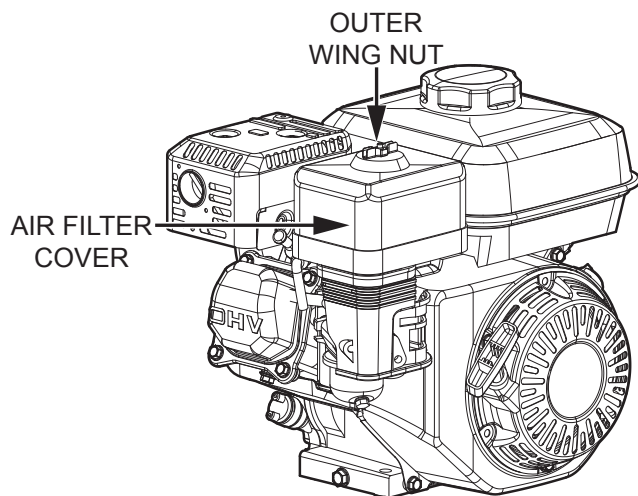

Figure 12. Air Filter Cover Removal
2. Remove the outer wing nut from the air filter cover, then remove the air filter cover (Figure 12). Set the wing nut and cover aside.